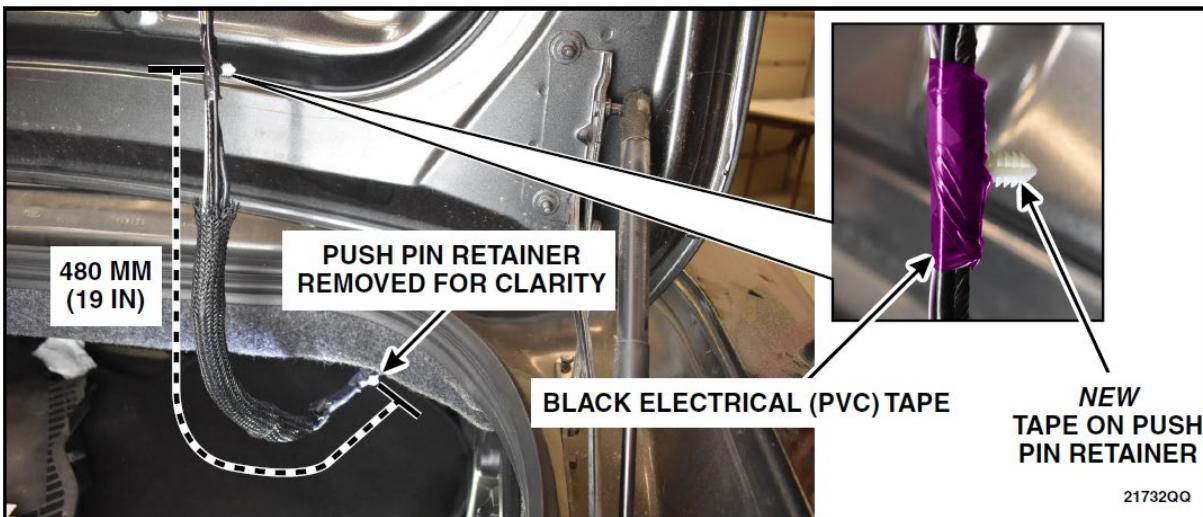

FIGURE 50
69. Measure 480 mm (19 in) from the wiring harness take out tape on push pin retainer and install a new tape on push pin retainer using some KTI73510 or equivalent black electrical (PVC) tape. See Figure 50.